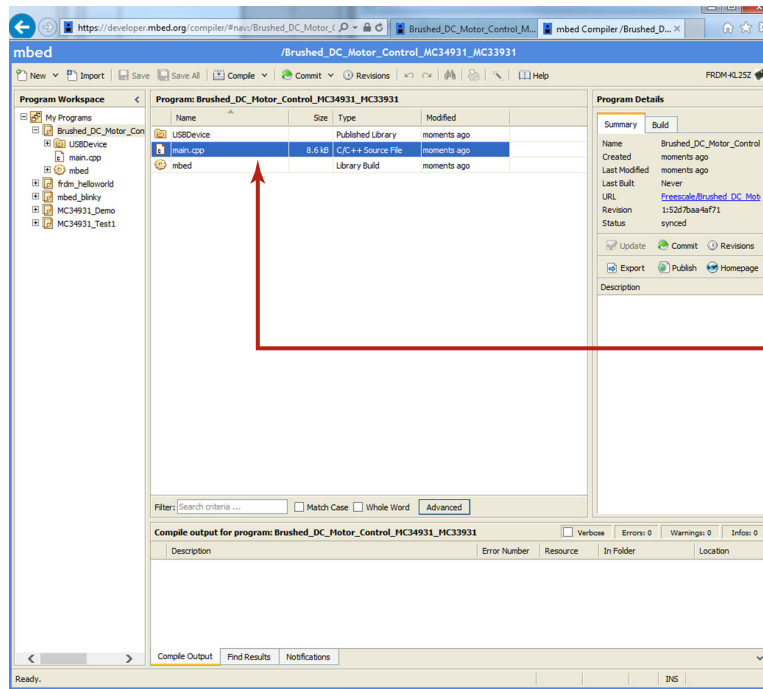

Figure 18. mbed Compiler Select Screen
- When the import completes, the mbed compiler screen should look like Figure 18. Click on the “main.cpp” item.